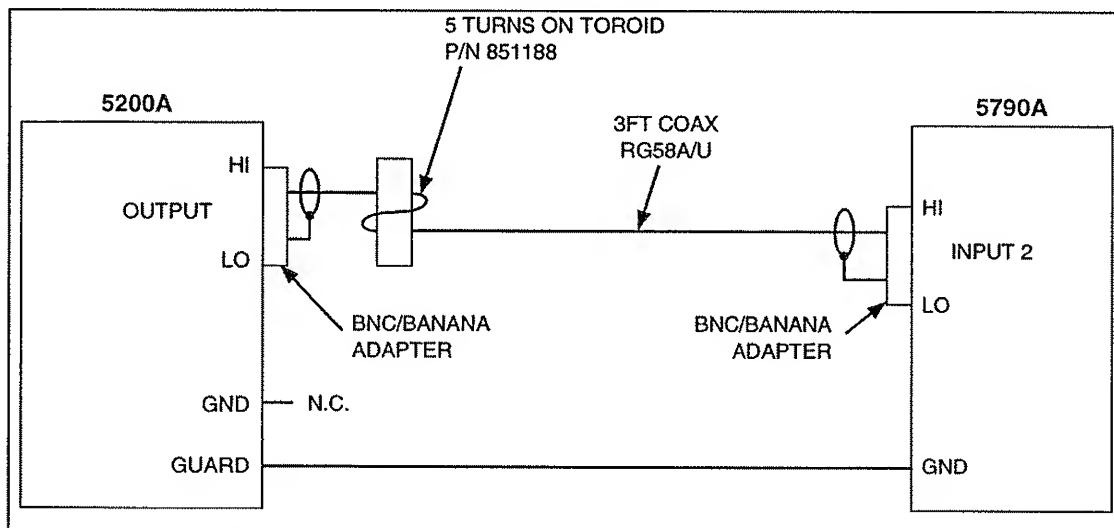

Figure F-4. 10 mV Output Accuracy Equipment Configuration
6. Connect the equipment as shown in Figure F-4.
5. Connect the equipment as shown in Figure F-4.